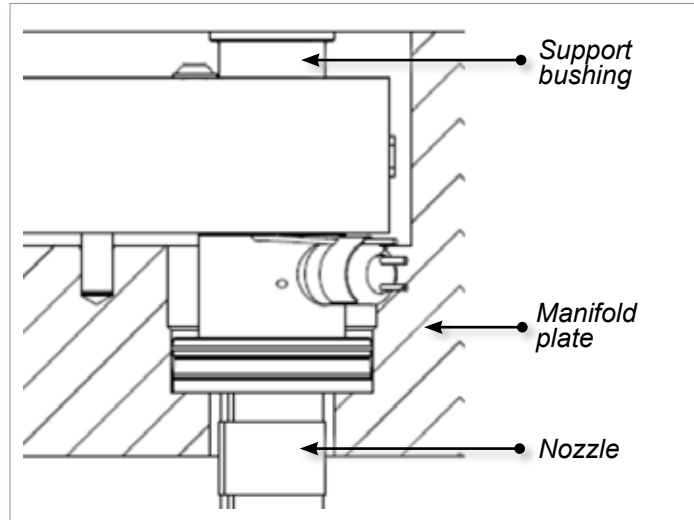

Figure 5-25 Support bushing in MasterShield systems
- Use a dowel pin to install all of the support bushings into the manifold. See Figure 5-25.